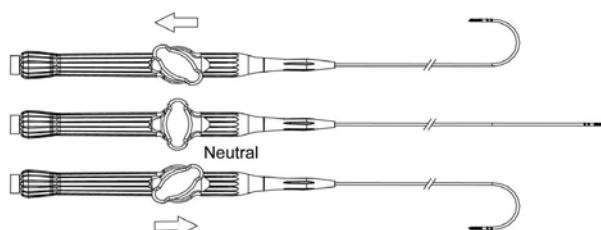

Figure 1
2. Inspect the catheter and package before opening. The contents of the package are sterile unless the package is opened or damaged. If the package is damaged or if it was opened and the catheter not used, do not use the catheter. Return the catheter and packaging to Ascent Healthcare Solutions for resterilization by ethylene oxide (EO) gas.
9. Use the Rocker Lever to deflect the catheter tip (Figure 1). When the lever is pulled back from neutral, the tip will deflect relative to the direction of rotation. The amount of deflection is relative to the amount of lever rotation. When the lever is pushed forward, the tip will deflect in the opposite direction. Return the Rocker Lever to neutral position to straighten the tip.